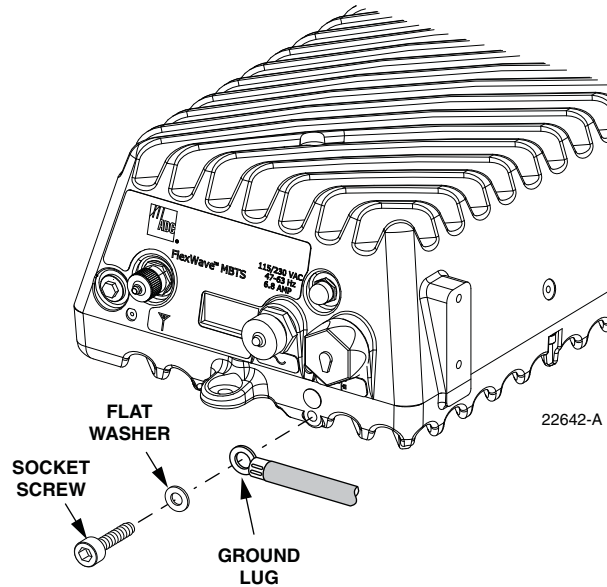

Figure 4-1: Connecting the Grounding Cable to the Enclosure
- 2 Locate the grounding point provided on the underside of the enclosure as shown in Figure 4-1.